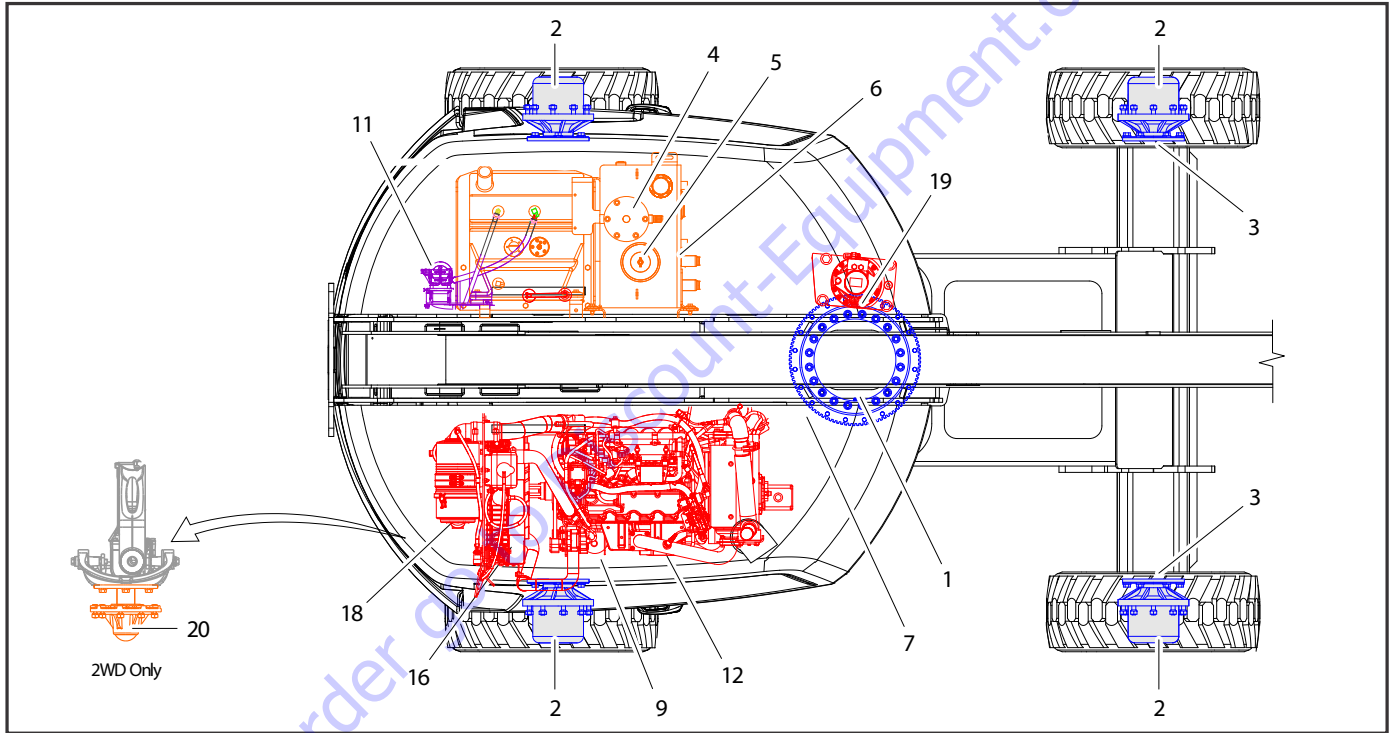

Figure 7-6. Operator Maintenance and Lubrication Diagram - Deutz 2.9L Engine
**NOTE:** The following numbers correspond to those in Figure 7-6., Operator Maintenance and Lubrication Diagram - Deutz 2.9L Engine.